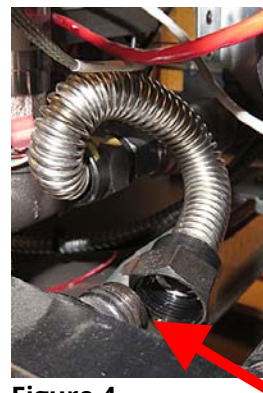

Figure 4
6. Disconnect the flexline from the manifold connecting the oil manifold to the filter pump (see Figure 4).